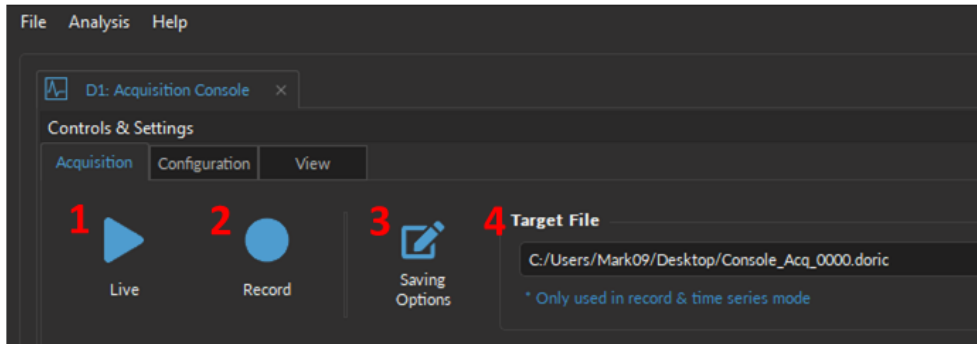
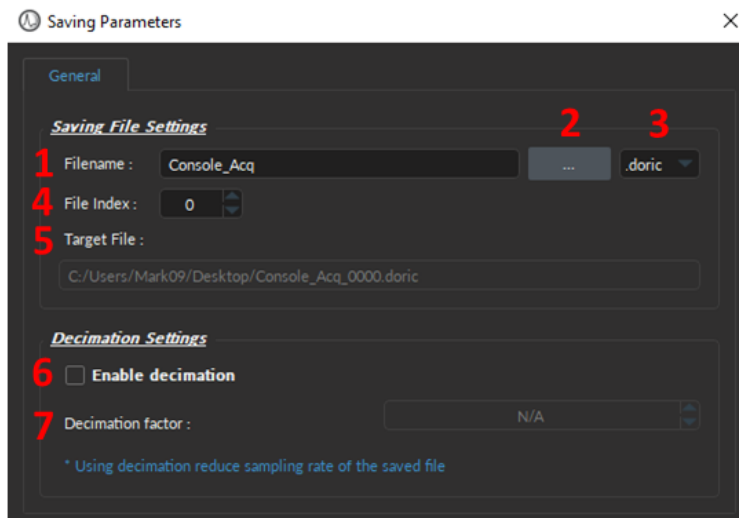

Figure 9.5: Acquisition Tab
Figure 9.6: Saving Menu Window
1. The **Live** button (Fig. 9.5, 1) activates all prepared channels. This mode does not save data, keeping only the most recent 700 000 data points in memory. This mode is not recommended for long or critical measurement sequences. **Live** mode is useful to quickly test the recording software and to ensure that the parameters were properly set.
2. The **Record** button (Fig. 9.5, 2) activates all prepared channels while periodically saving recorded data to the disk. This mode is recommended for long measurement sequences.
3. The **Saving Options** (Fig. 9.5, 3) button opens the **Saving Parameters** window (Fig. 9.6). See section 9.3.1.1 for greater details.
4. The **Target File** (Fig. 9.5, 4) displays the path and file name where the data will be stored once the **Record** button is selected. Select the **Saving Options** button to change the path and file name.
The **Saving Parameter** window is used to define how and where the file is saved. This window is opened by selecting the **Saving Options** button in the Acquisition Tab (Fig. 9.5, 3).
1. The **Filename** text-box lets users specify the name of the data file that will be saved (Fig. 9.6, 1).
2. The **[...]** button opens a File Explorer window where users can select the folder where the data will be saved (Fig. 9.6, 2).
3. The **File format** (Fig. 9.6, 3) is **.doric**, an HDF5-based format that supports metadata (signal, video, images, tables, parameters, etc.). Version 6 of *Doric Neuroscience Studio* is no longer compatible with other file formats (.csv, .excel, or .tiff). We provide Matlab, Python, and Octave codes to read **.doric** files HERE. While not recommended, it is possible to export a *.doric* file into .csv format through the **Doric File Reader** module.
4. The **File Index** (Fig. 9.6, 4) box is used to define the current indexation number used for multiple files saved during the same measurement session. The suffix is incremented automatically when recording multiple files.
5. The **Target File** (Fig. 9.6, 5) displays the absolute path and filename where the data will be saved.
6. The **Enable decimation** checkbox (Fig. 9.6, 6) provides a way to reduce the file sizes. This method conserves points averaged over a number of data points equal to the **Decimation Factor**.
7. The **Decimation factor** text-box (Fig. 9.6, 7) is used to define the number of points saved.¹
- *Software Command* - The recording will start when the **Record** button is selected in the **Acquisition Tab** (Fig. 9.5, 2). The **Master Start** is, by definition, always **Manual**.
The **Time Series** Window (Fig 9.9b) can be opened by clicking on the **Record** button (Fig. 9.5, 2) when the **Master Trigger** is in **Time Series** mode in the **Global Settings** window (Fig. 9.8, 2). Every **Time series** sequence is automatically saved to the *.doric* file defined in **Saving Options** (Section 9.3.1.1).